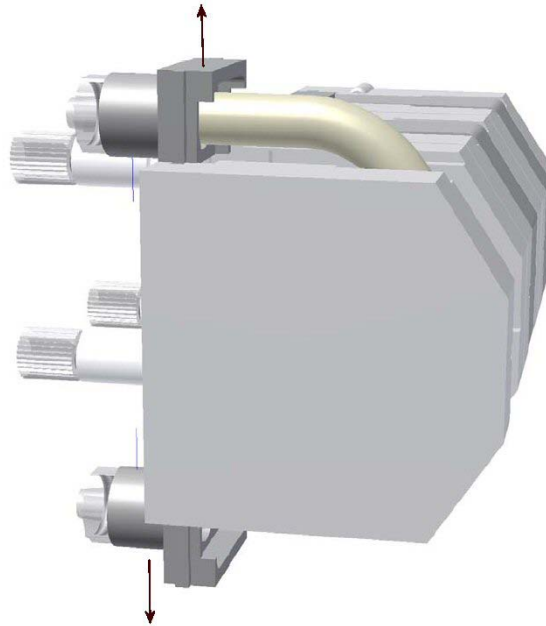

Figure 2-3
- Slide the tube end elements up and down respectively, to remove a tube (figure 2-3).